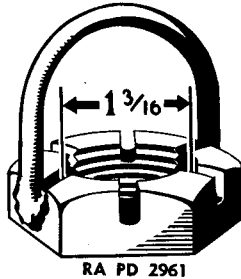

FIGURE 29 — INPUT SHAFT LIFTING NUT
(16) Remove shifting rods. Remove bolts from transmission housing at front ends of shifting rods, and take out springs and balls. Working through inspection plate hole, remove locking wires and bolts holding shifting forks and bracket to shifting rods. Slide shifting rods out of forks and out through rear end of transmission, being careful not to lose sleeve on front end of middle rod. Lift out the three forks.
(17) Remove input shaft assembly. Screw special lifting nut (fig. 29) onto rear end of input shaft and lift shaft assembly out through rear end of housing with hoist. Lift slowly. Input shaft gears are meshed with output shaft gears, and input shaft must be manipulated to free gears before assembly can be removed. With assembly removed, knock bearing off end of shaft with a wood mallet.
(18) Remove oil pump assembly. Oil pump must be taken out before removing either countershaft or output shaft. Remove locking wire from bolts and remove bolts ($\frac{9}{16}$ -in. wrench) which hold oil pump assembly to its support. Lift out oil pump.